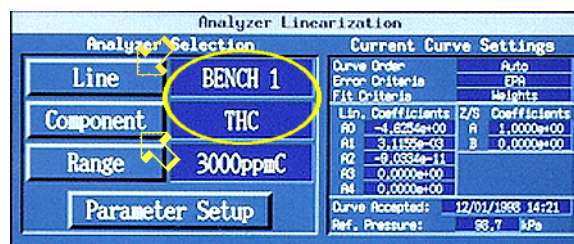

Figure 8
- 111 On the "Analyzer Linearization" screen under “Analyzer Selection,” verify that the “Line” field is set to the bench that needs the bottle change and the “Component” field indicates the correct gas. See the Circle in Figure 8.
If a correction is necessary, click on the appropriate button and select the correct data from the menu. See the Arrows in Figure 8.